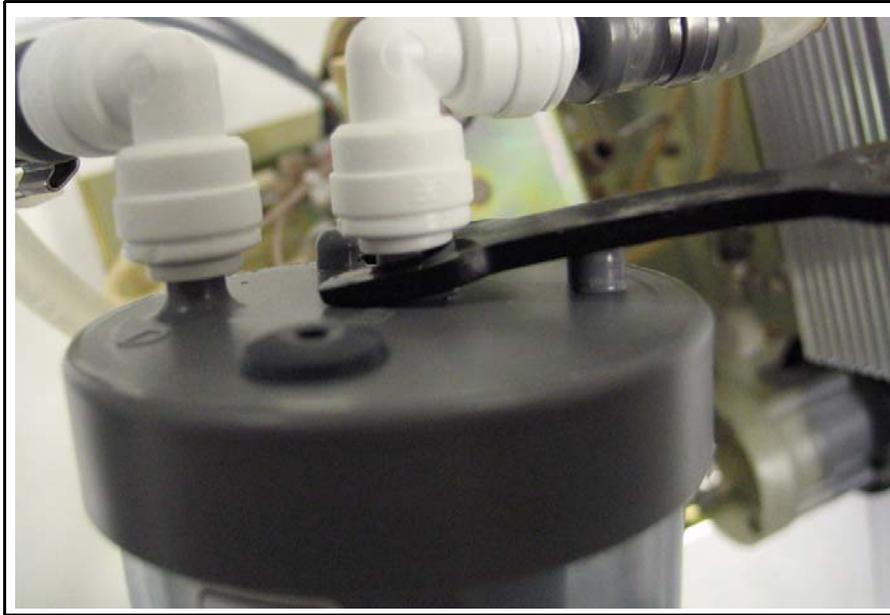

Figure 9: Removing the John Guest Fitting
5. Remove the John Guest fittings labeled “B” and “D” from the barbs on the top of the DI water cartridge. To loosen a fitting, use the John Guest tool from the accessories kit to push up on the bottom ring on the fitting, so that the ring moves toward the fitting (see Figure 9). Note that the tool is not used like a wrench to turn the fitting, but rather is only used to press in on the bottom ring of the fitting. You may want to rest the tool on the small post when you release the fitting, as shown in see Figure 9.